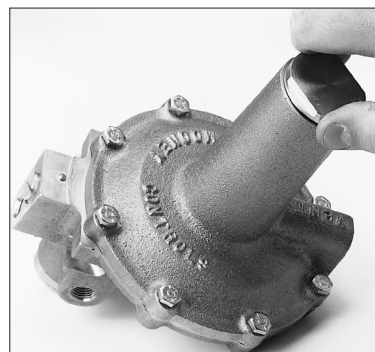

Figure 38
- Place lubricated O-Ring on the spring housing Cover and screw into place (refer to Figure 38).